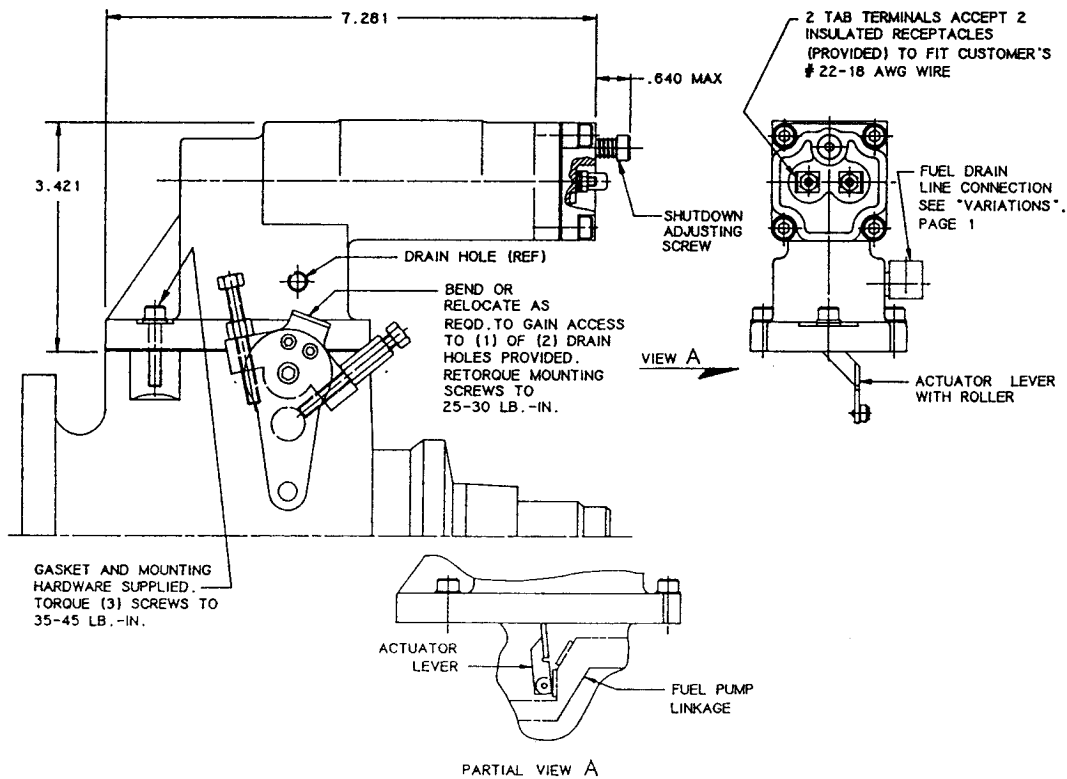

FIGURE 1
- Dimensions ..... See Figure 1
spring. The mechanical fuel pump throttle lever is locked fully open as shown in Figure 1. The mechanical high idle governor is set to 10% above engine operating speed (i.e., 66 Hz for a 60 Hz generator set). This ensures that the mechanical governor operation does not interface with the electric governor and provides a safety backup to prevent overspeeding the engine. The actuator housing is sealed against the engine environment with gaskets at all openings so steam or other water based cleaning will not affect the system's operation. No maintenance is necessary.
- a) Lower the actuator onto the top of the fuel pump from a position further towards the drive shaft end of the fuel pump than its final assembled position (Ref: Figure 1).
After the actuator is installed on the fuel pump, connect the fuel drain line to the drain line check valve which fits into the elbow at the side of the actuator. Two 1/8 NPTF holes are provided as shown in Figure 1 as alternative drain line connection locations. Seal off the unused connection hole with the 1/8 pipe plug provided with the actuator. Note: Two alternative drain line pressurizing valves are available on Stanadyne fuel pumps. 1/8 NPTF (Part No. 15830) and 7/16 UNF with O'ring (Part No. 21252). See "Variations" on Page 1 for corresponding actuator. Voltage ratings are 12 and 24 volts. After installing the AGS 50 actuator, install the speed
3. Check that the engine shuts down when electrical power is removed from the actuator. Screwing in the shutdown adjusting screw as shown in Figure 1 reduces the fuel delivery to the engine and assists shut-off. Engines adjusted with marginal shutdown settings will have a slower transient response during load dumps. Check that the steady state current flow does not exceed normal operating currents shown on the specification on Page 1. Higher currents will cause the actuator to run hotter and may damage the coil assembly. Screwing the shutdown screw-out will decrease the current flow but will eventually prevent engine shutdown.